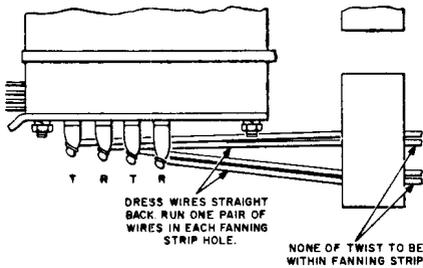
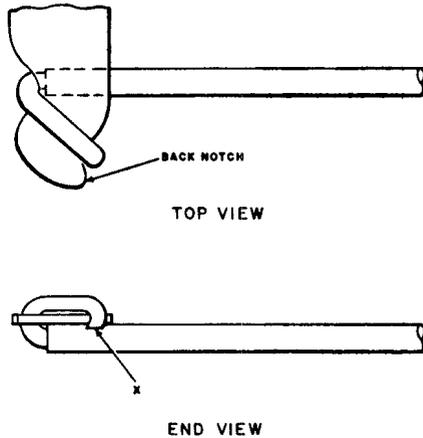

FIGURE 12. Termination of Wire on Type 444 Jack at MDF
FIGURE 13. Termination of Wire on Terminal with a Back Notch
- 6.07 To terminate a wire on a type 444 jack, pass the wire through the proper hole in the fanning strip (as shown in Figure 12), bring the wire under the terminal, up through the notch, across the top of the terminal, and down through the back notch (as shown in Figure 13). Cut or break the excess wire at point X.